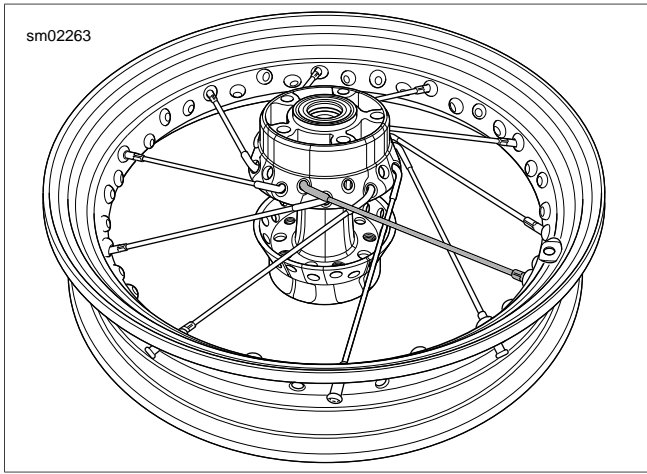

Figure 2-24. Brake Side Up: Start First Spoke of Top Row
5. See Figure 2-24. Place the first **upper** row spoke into the hub as shown below. Angle the spoke counterclockwise crossing four lower row spokes. The spoke must enter the hole to the left of the valve stem hole.